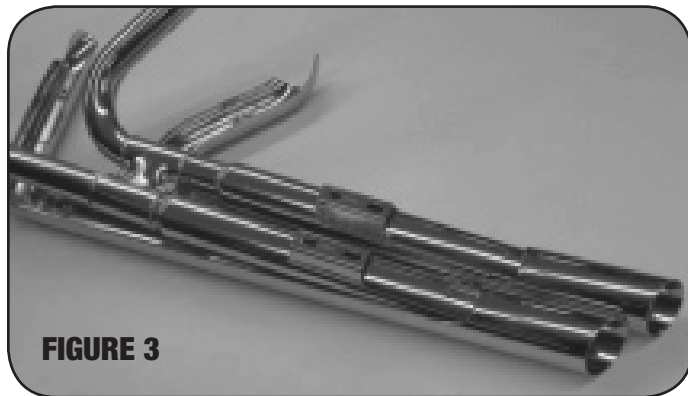

FIGURE 3
5. Lay header into heat shields tail end first (**Figure 3**).